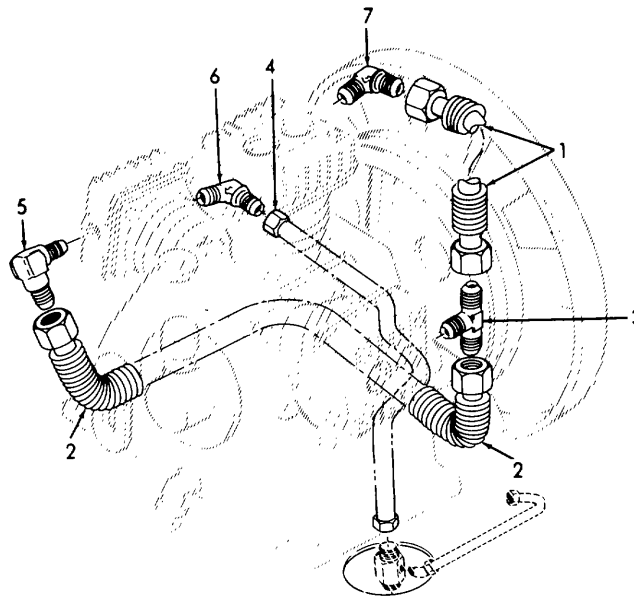

Figure 3-25. Tube Assemblies, Removal.
a. *Removal.* (Refer to Figure 3-25).